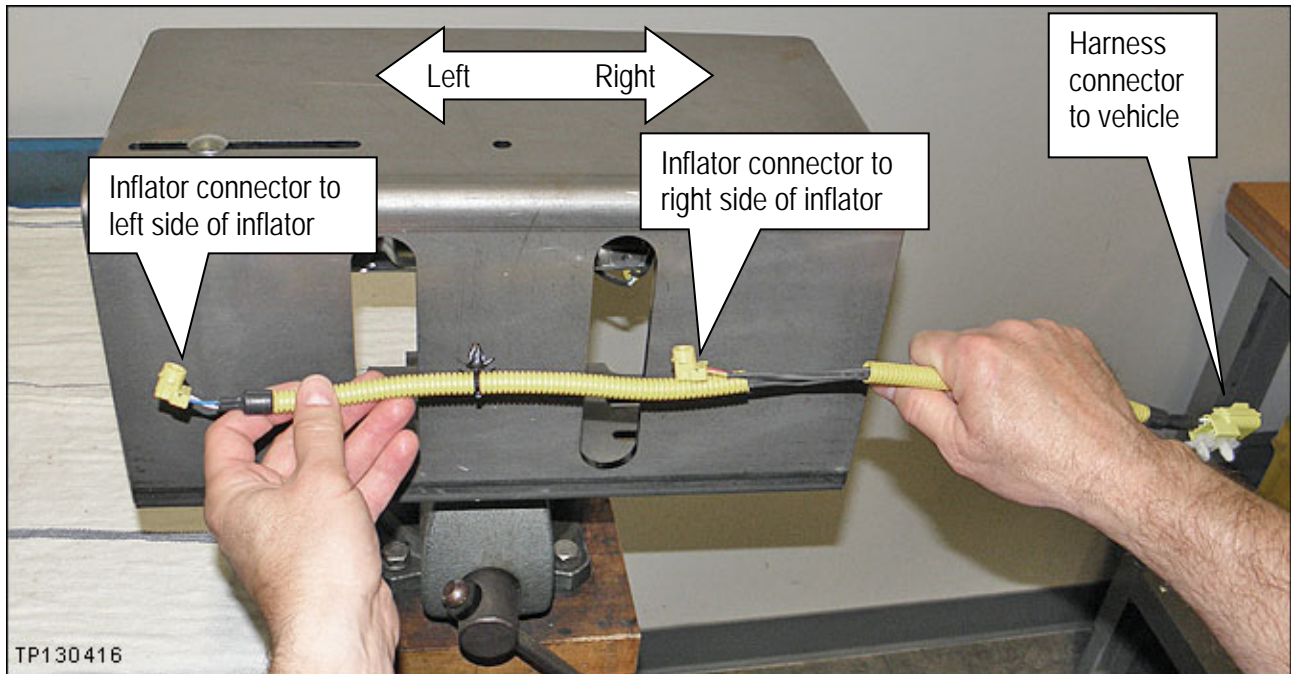

Figure 35
- Make sure to attach the connectors to the correct ends of the inflator (see Figure 35).
- Left / Right orientation is as shown in Figure 35.
- Make sure to attach the correct ends (see Figure 35 on the previous page).
- Refer to Figures 35, 36, 37, and 38.